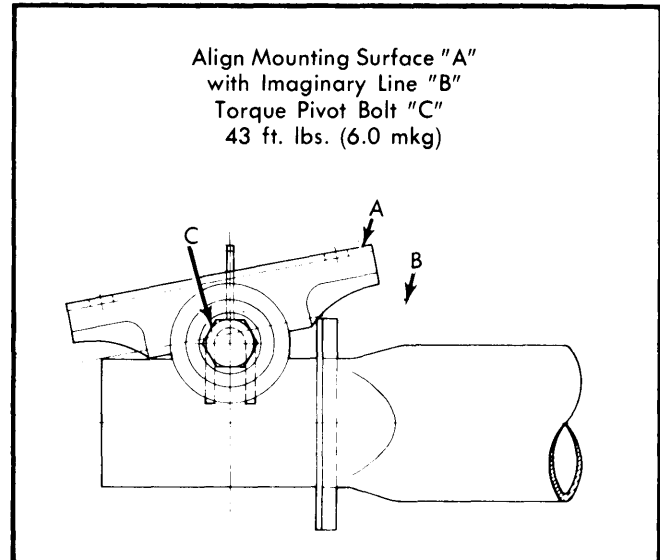

Fig. 2 Drawing Showing Correct Mounting Pad Alignment
Installation – 1) If axle beam mounting has been removed, use Fig. 2 to correctly adjust mounting pad. If pad is not correctly aligned, torsional preload of mounting bushings will be incorrect.
4) Align mount as shown in Fig. 2. Tighten pivot bolt nut. Lower vehicle.